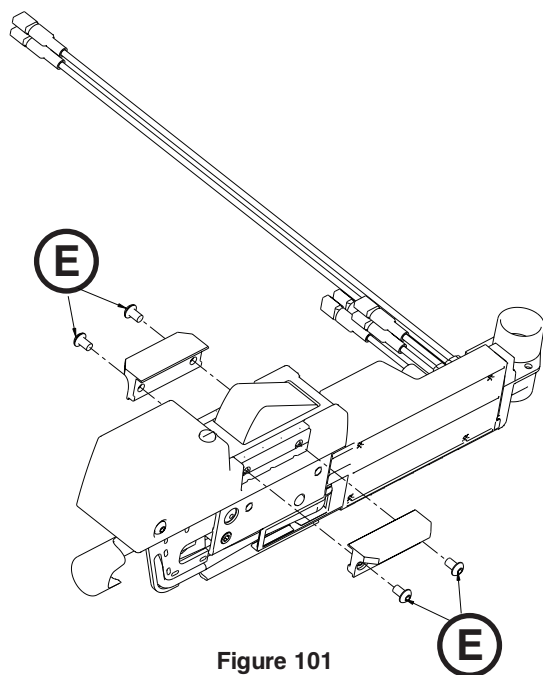

Figure 101
11. Using a T25 Torx driver, remove the four button head cap screws (E) that secure the two retainer wings and remove the retainer wings (Figure 101). Save all parts for reinstallation.